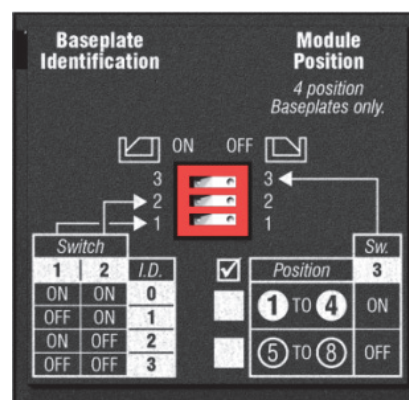

Figure 4. Modular Baseplate ID Switches (For FBM Baseplates)
- ▶ The number of the FBM baseplate in the group, as set by means of the baseplate Identification (I.D.) DIP switches on each baseplate (see Figure 4).
- ▶ The number of the baseplate in the group, as set by means of the baseplate Identification (I.D.) DIP switches on each non-FCP280 baseplate (see Figure 4). FBM-supporting baseplates should be assumed to have this switch unless otherwise specified below.